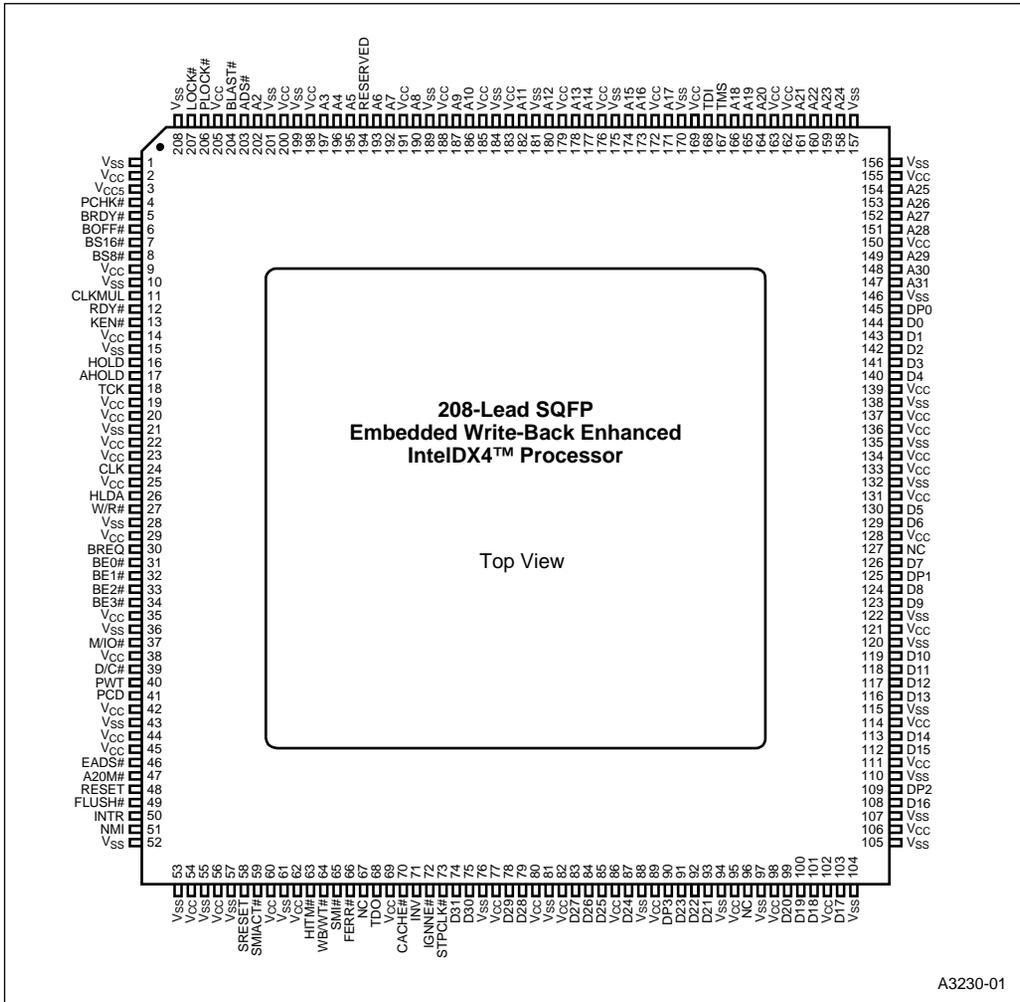

Figure 2. Package Diagram for 208-Lead SQFP Embedded Write-Back Enhanced Intel® X4™ Processor
- Figure 2, Package Diagram for 208-Lead SQFP Embedded Write-Back Enhanced IntelDX4™ Processor (pg. 4)